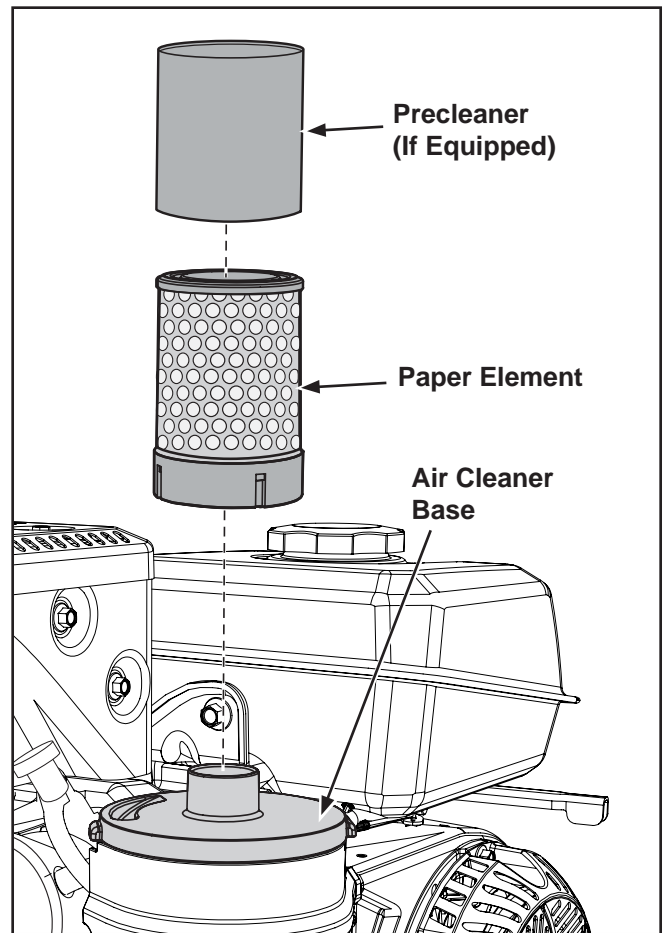

Figure 22. Air Cleaner Element and Precleaner.
These engines are equipped with a replaceable, high density paper air cleaner element. Some engines are also equipped with a preoiled, foam precleaner which surrounds the paper element. See Figure 22.
5. Slide the precleaner and paper element onto the air cleaner base. See Figure 22.
- Remove the air cleaner cover. Move the bails on the air cleaner cover down. Remove the latches from under the tabs of the air cleaner base. Lift and remove the air cleaner cover from the air cleaner base. Separate the precleaner from the element and service as outlined above. See Figures 22 and 23.
- Slide the precleaner and paper element onto the air cleaner base. See Figure 22.